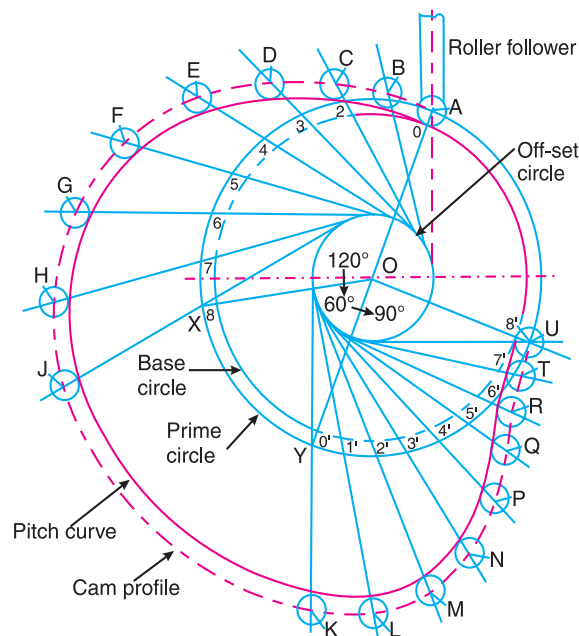

Fig. 20.30
Now, the profile of the cam, as shown in Fig. 20.30, is drawn as discussed in the following steps :
4. Divide the angular displacements of the cam during out stroke and return stroke into eight equal parts as shown by points $0, 1, 2 \dots$ and $0', 1', 2' \dots$ etc. on the prime circle in Fig. 20.30.
9. Join the bottoms of these circles with a smooth curve to obtain the profile of the cam as shown in Fig. 20.30.